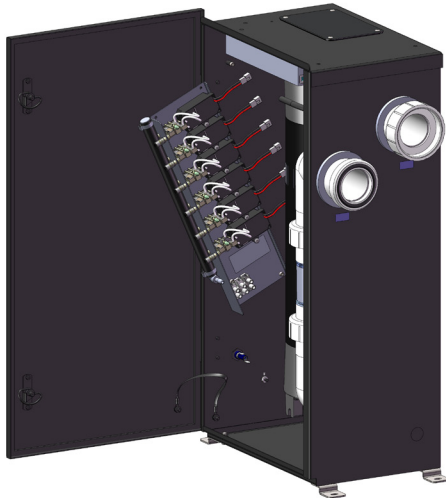

Figure 6: Ozone Bracket During Ozone Module Service
3. Locate the Drain Plug (Refer to Figure 6) and remove to drain the remaining water in the Solar Eclipse.
There are two lamps in the UV Reactor of the Solar Eclipse. If the UV Lamp Access Panel is removed while the unit is running, a slight glow can be seen near the top of the lamps. (Refer to Figure 6 for a more detailed view)
5. Disconnect the Ozone Gas Line and unscrew the two front mounting screws of the Ozone Bracket. Swing the ozone Bracket forward and locate the Power Connector (black and red wires) from the Module Power Supply and disconnect from the wire harness. Refer to Figure 6.